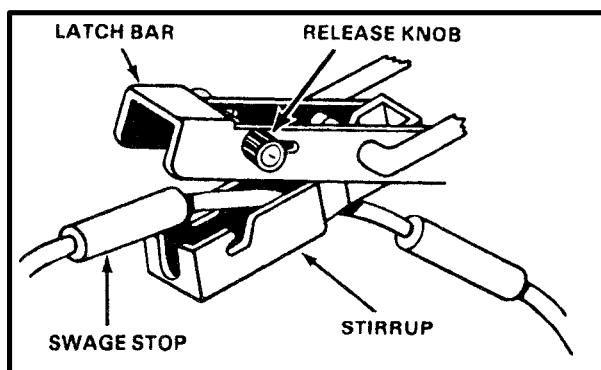

Figure 8-9. Tensioner
(1) Place the bridle across the load perpendicular to the pallet boards and parallel to the pallet wings.
(2) Route the plastic covered wire rope under the pallet wing formed by the upper boards on the sides of the pallet. Pull the ends of the cable containing the swage stops through the tensioner (Figure 8-9).
(3) Feed the swage stops (adjusting beads) on the cable basket leg through the tensioner to tighten the plastic covered wire ropes against the underside of both pallet wings. Keep the bridle centered on top of the load.
(4) Snap shut the latch bar on the tensioner stirrup while keeping the basket leg tight against the pallet wings.